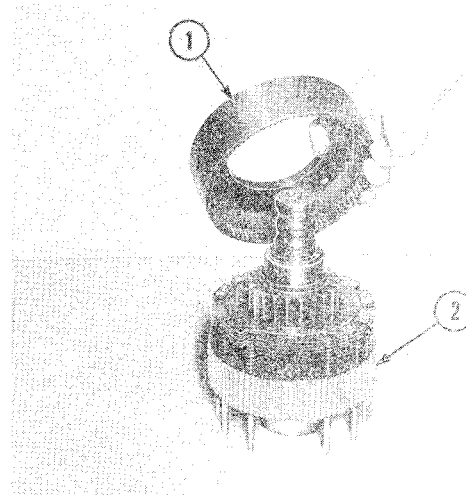

Figure 4-114
Turn the clutch assembly over so that the seal ring end is up. Remove the backing plate (1, Fig. 4-114) from the cylinder (2).